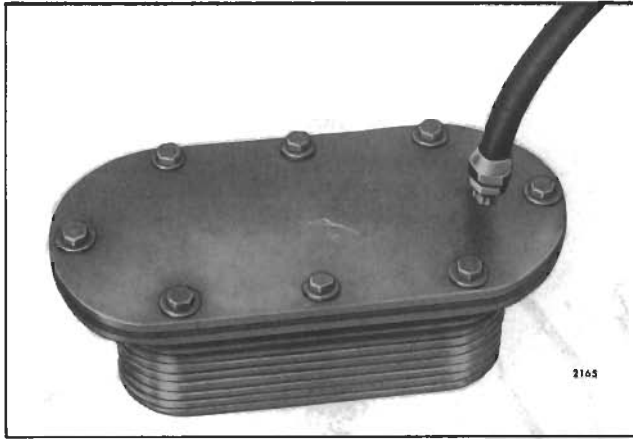

Fig. 6 - Oil Cooler Core Prepared for Pressure Check
1. Make a suitable plate and attach it to the flanged side of the oil cooler core. Use a gasket made from rubber to ensure a tight seal. Drill and tap the plate to permit an air hose fitting to be attached at the inlet side of the oil cooler core (Fig. 6).